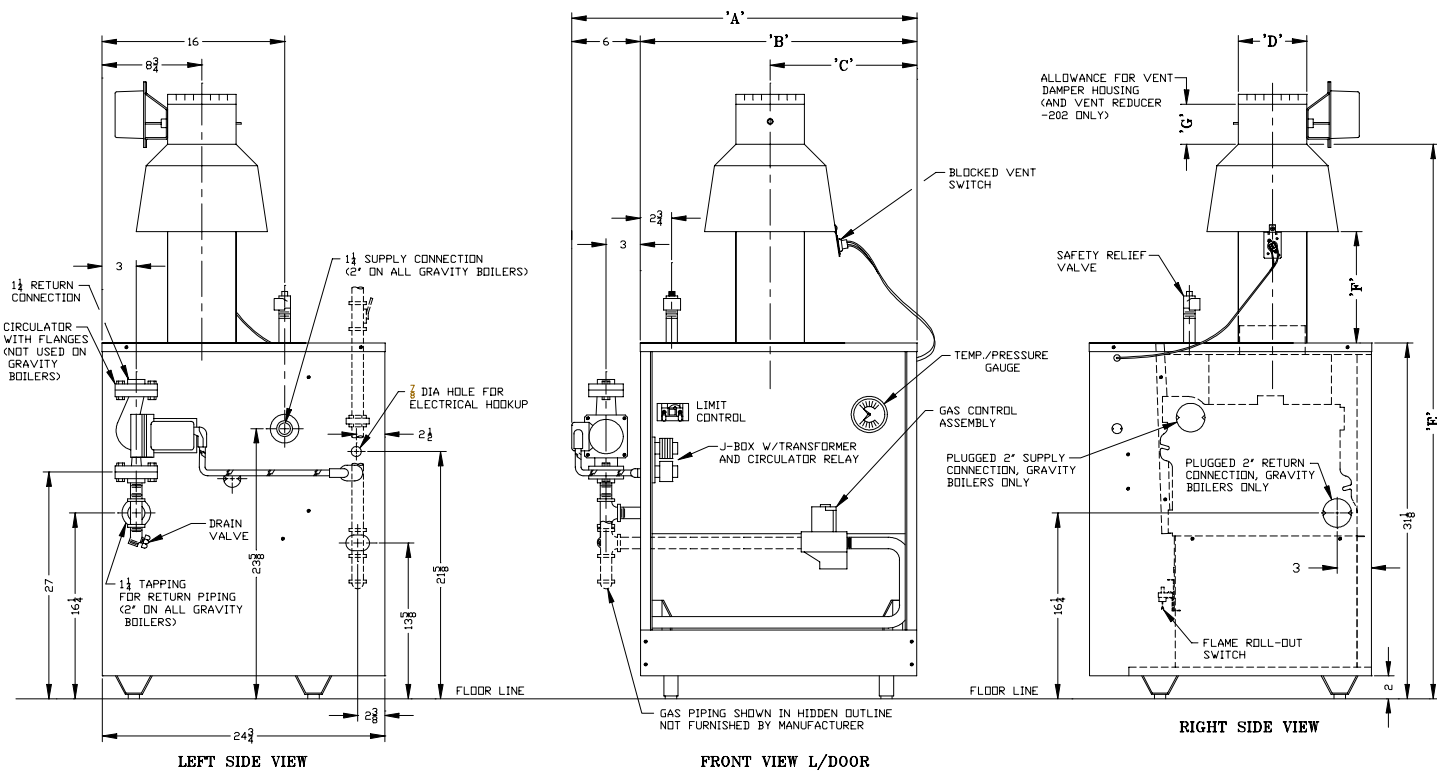

Figure 1
- 1. ALL INSTALLATIONS - Practical service clearances must be considered (see Figure 1). A minimum of 24" from the left side and front jacket panels is recommended for servicing but may be reduced to minimum shown in Figure 2. Subject to boiler and system piping, left side clearance may be reduced to 1" if right side clearance is increased to 9".
8. CONNECT GAS SERVICE from Meter to gas control assembly in accordance with Local Piping Codes and requirements of Gas Company, see Figure 1. They may require piping of larger size than Control Assembly Connection, especially if run from meter is long or includes several elbows. (See Figure 1 for size of Gas Connection to gas control assembly).
This piping is to be supplied by the installer and must include a trap, a ground joint union and a manual shutoff valve upstream of the gas control assembly outside of the jacket when codes require, see Figure 1. A pipe thread compound resistant to the action of liquefied petroleum gases should be applied to all threaded joints in the gas piping. Pressure testing of the Gas Supply Piping Boiler and its connections is required before placing the boiler in operation.